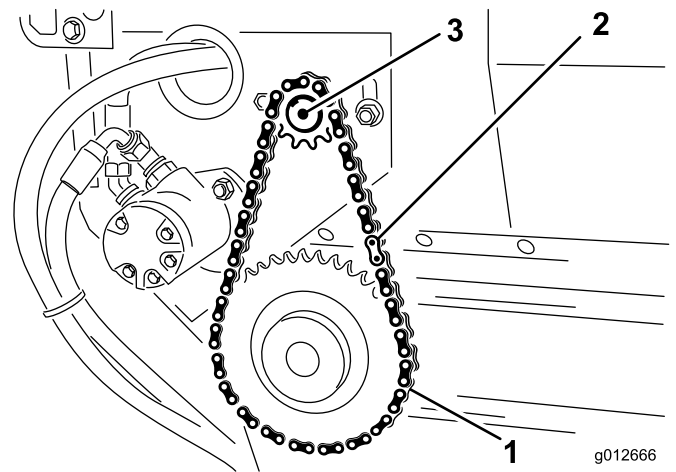

Figure 21
2. Remove master link from chain and remove chain from small sprocket (Figure 21).